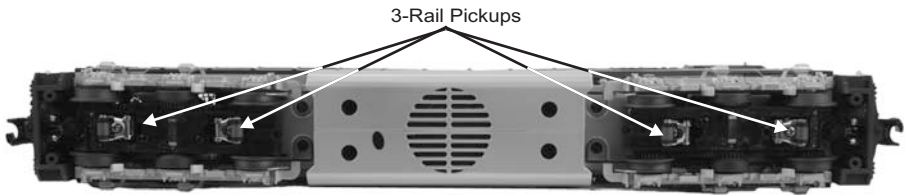

Figure 5: 2-Rail/3-Rail Operation
1. Remove the center rail pickup roller assemblies as seen in figure 5.